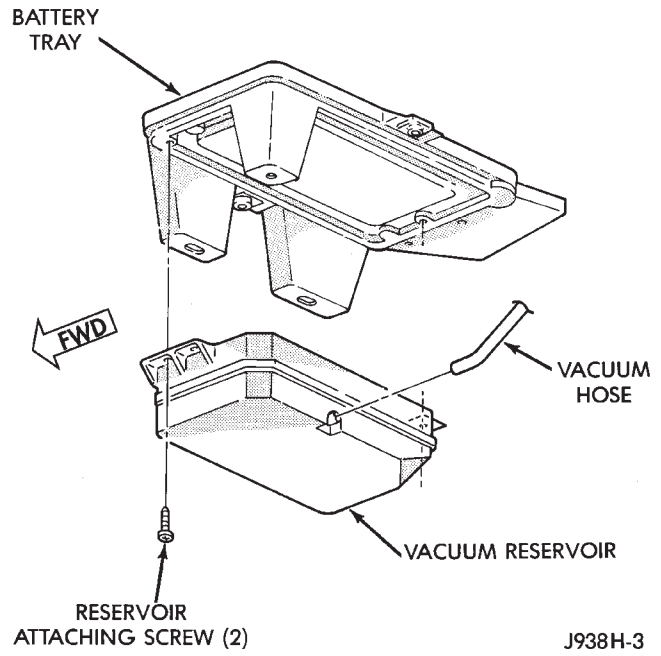

Fig. 37 Vacuum Reservoir
- (1) Remove the battery (refer to Group 8B, Battery/Starter/Generator Service).
- (2) Disconnect the vacuum hose (Fig. 37).
- (3) Remove the battery tray and vacuum reservoir assembly (refer to Group 8B, Battery/Starter/Generator Service).
- (4) Remove the reservoir attaching screws (Fig. 37). Remove the vacuum reservoir from the battery tray.